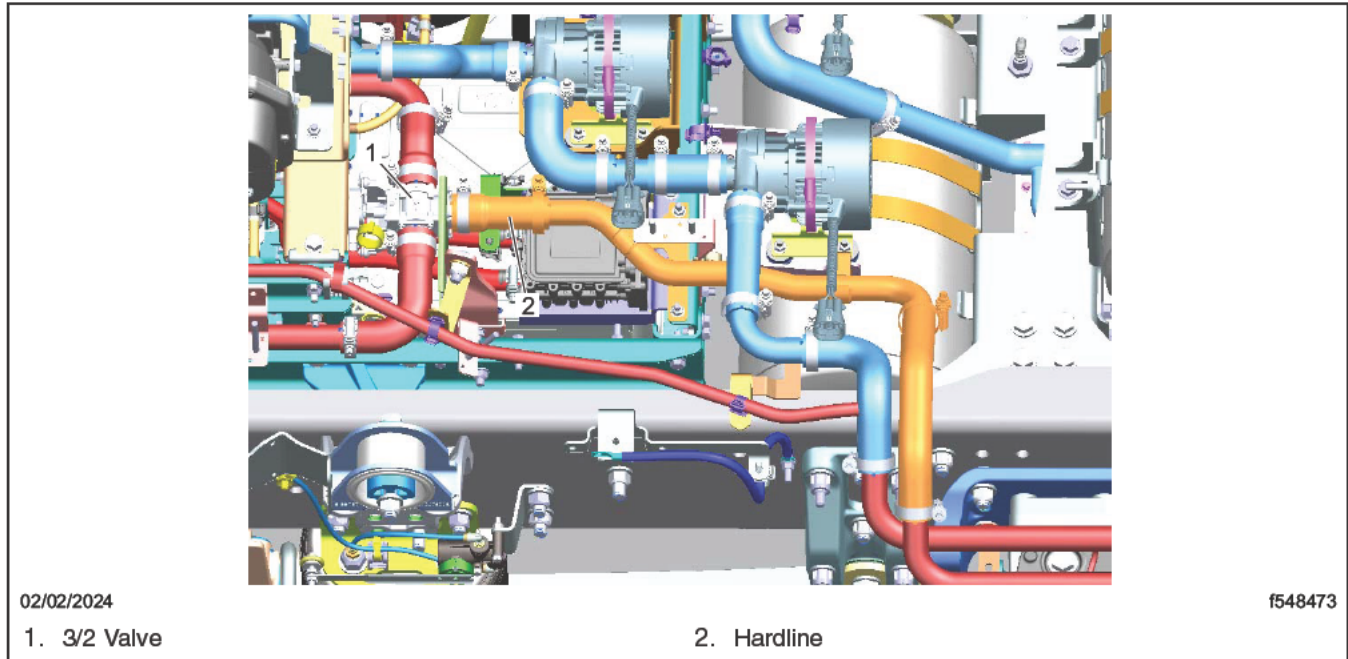

Fig. 8, Disconnecting Hardline from 3/2 Valve
24. Remove the mounting fasteners that attach the hardline to the 3/2 valve, then disconnect the hardline from the 3/2 valve. See Fig. 8.